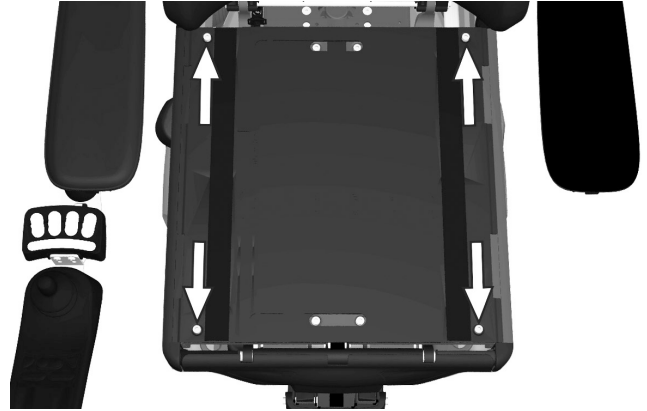

Figure 175. The seat plates are held in place by four screws.
- 1 Allen key 3 mm.
- 1 Allen key 4 mm.
- 1 Allen key 5 mm.
3. Remove the seat plates, they are fitted with four screws at the back and front edge. See fig. 175.